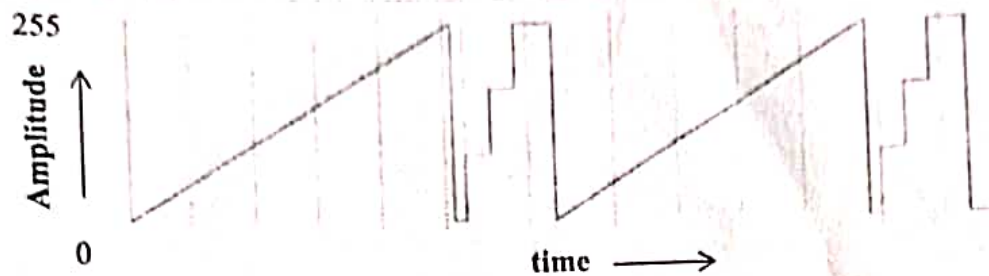

Figure 2: DAC Waveform
3. Write an 8051 ASM program to generate the waveform as shown in Figure 2 using DAC.